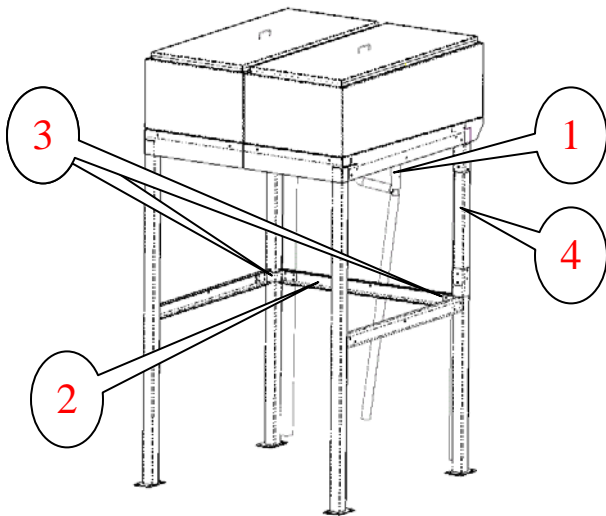
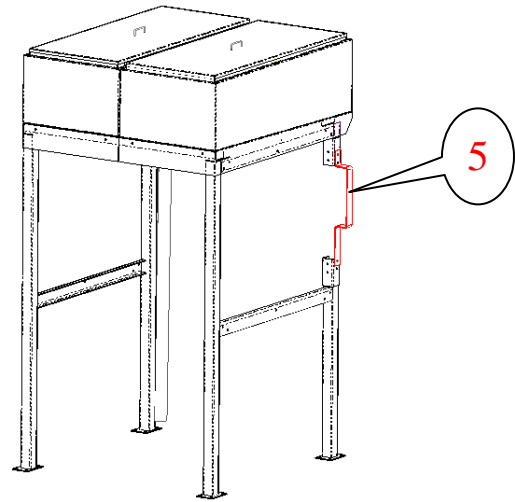

Figure 8.
Figure 9.
Remove the hoses (1), the rear crossbar (2), and both crossbar mounting brackets (3). On models WCS80, WCS100, and WCS140, remove the rear corner post insert (4) and insert the installation support (5). This is necessary to get the rear leg past the side soap dispenser on the washing machine. IPH60 washers do not have a side dispenser, so this feature is not included on the WCS60. Figure 8 shows how the machine is shipped while figure 9 shows the machine ready for positioning and installation over the washing machine.